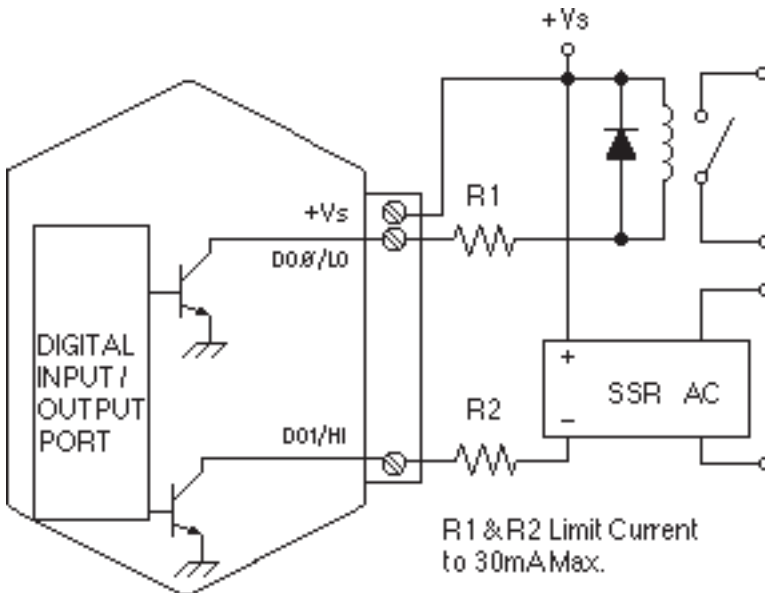

Figure 6.3 Digital Inputs
Digital inputs are used to sense switch closures and the state of digital signals. The inputs are protected to voltages up to $\pm 30\text{V}$ and are normally pulled up to the logic "1" condition (see Figure 6.3). Digital inputs can be read by the Digital Input (DI) command. Voltage inputs less than 1 V are read back as '0'. Signals greater than 3.5 V are read as '1'. No other commands have any affect on the inputs.